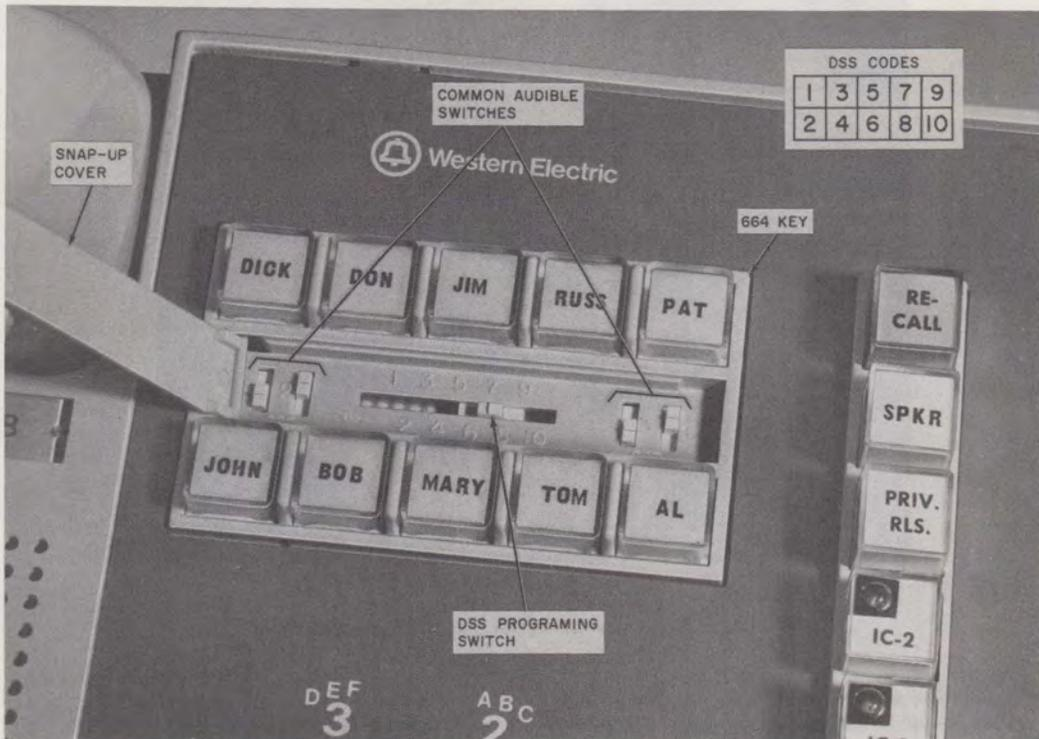

Fig. 7—DSS Key
3.07 The DSS programming switch and common audible switches (Fig. 7) must be set as required at each station as follows:
- (1) Raise cover either by pressing on the extreme left end to tilt the cover or pry up the right end of the cover using a fingernail.
- (2) Determine the DSS code for that station and slide the program switch to that number. For example, Fig. 7 shows the station designated as DSS code 7.